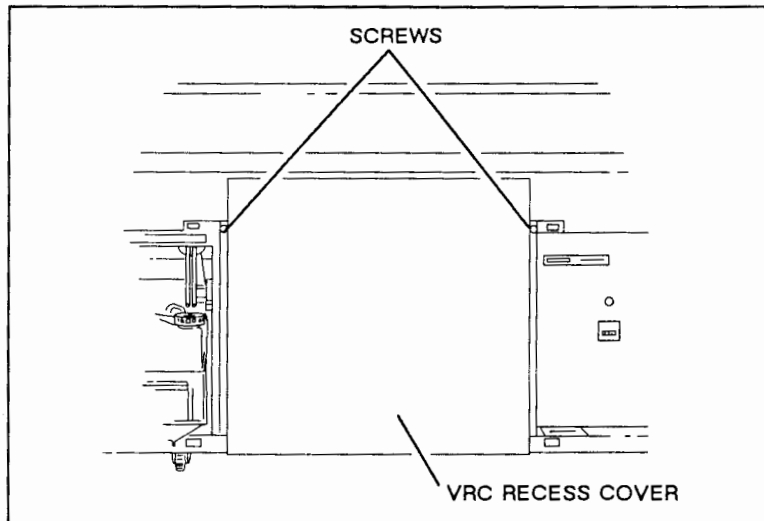

Figure 2-7. Center Cover Removal
- b. Unscrew the two screws at the upper sides of the center cover. See Figure 2-7. Pull the top of the cover toward you and lift to remove the cover. Set the center cover off to the side.